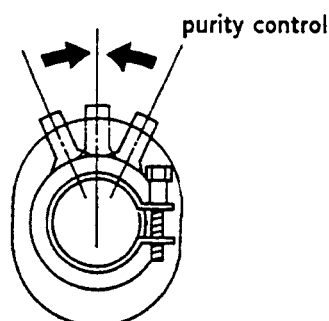

Fig. 3-1.
2. Adjust purity control as shown in Fig.3-1.